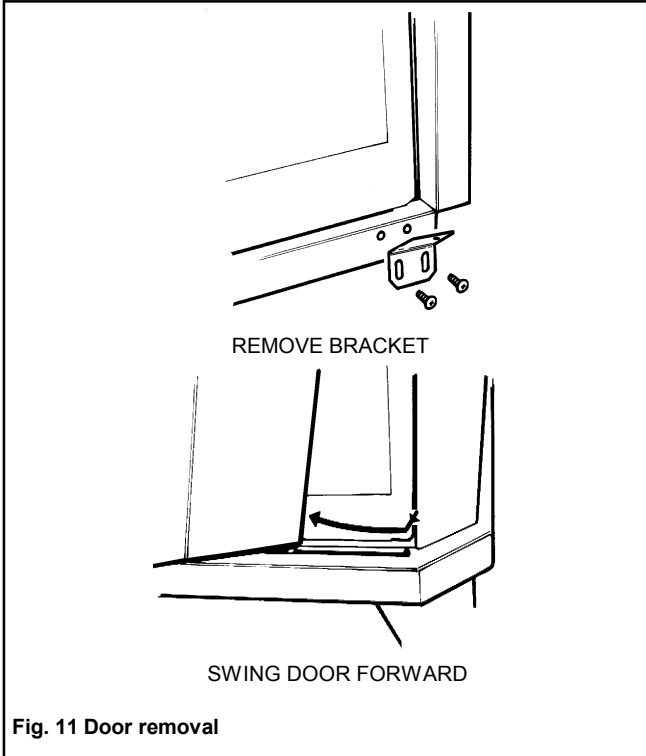

Fig. 11 Door removal
- 9.2.1 Detach the door retaining bracket (located near the rear right corner of the appliance main unit) by removing two screws (see figure 11).
- 9.2.2. Swing the bottom of the door forward to release the bottom pin from the slot in the case and lift the door clear (see figure 11).